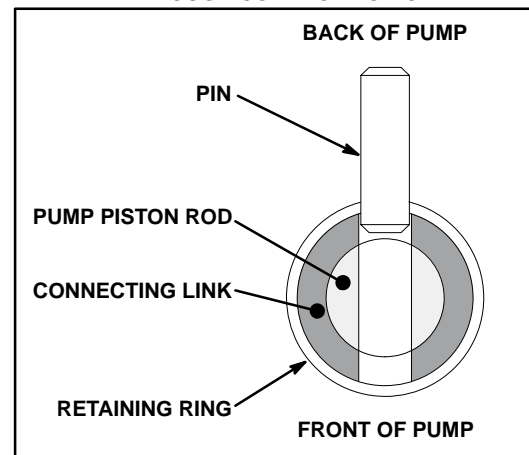

Fig. 13
2. Start the engine. Jog the pressure control ON/OFF switch until the connecting link stops near the bottom of the stroke and is fully exposed. See Fig. 13. Shut off the engine.
5. Remove the outlet hose. Slightly loosen the two mounting screws. See Fig. 13.
Be sure the retaining spring is firmly in the groove of the connecting link, all the way around, to prevent it from working loose due to vibration. See Fig. 13.
5. Lift the pump to align the mounting holes and install the mounting screws. **IMPORTANT** – torque the screws to 20 ft-lb (27 N.m). See Fig. 13.
NOTE: Refer to Fig. 13 for reassembly except where noted.